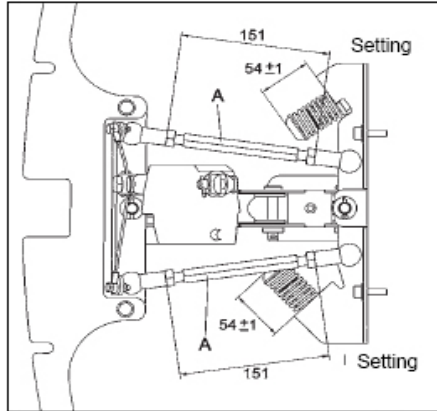

Figure 16 - Squeegee Parallel Adjustment
- Pre-adjust to (151mm) approximately 6.0" by bar (Figure 16/A)
- Fine adjustment with bar (Figure 16/A), make sure that squeegee blades rest evenly and vertically on the floor.